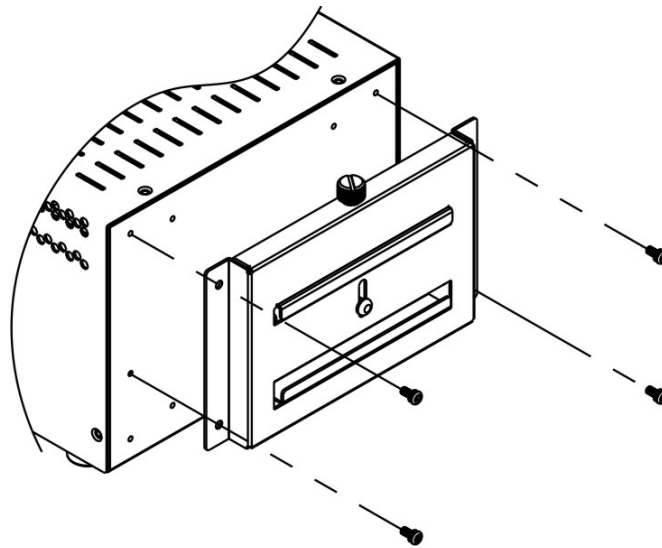

Figure 4-8: DIN Rail Mounting Bracket
Step 1: Attach the DIN rail mounting bracket to the bottom panel of the embedded system. Secure the bracket to the embedded system with the supplied retention screws (**Figure 4-8**).